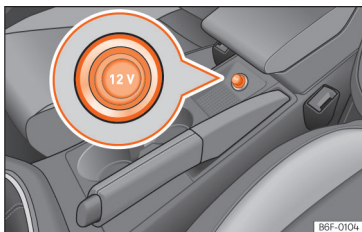

Fig. 133 Vehicle 12-volt socket.
- Remove the plug from the socket located in the centre console »» Fig. 133.